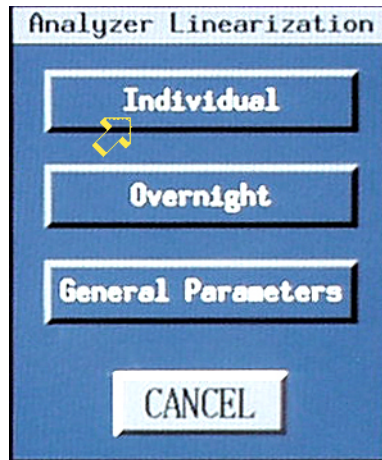

Figure 7
- 110 From the “Analyzer Linearization” menu, click on “Individual.” See the arrow in Figure 7.